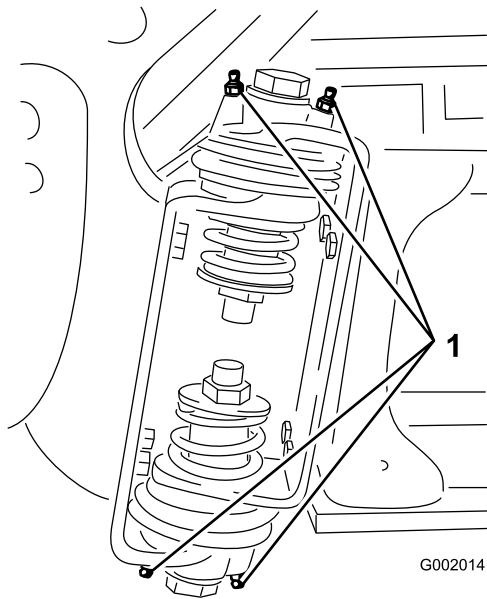

Figure 64
2. Pump grease into the bearing or bushing at each fitting (Figure 64).